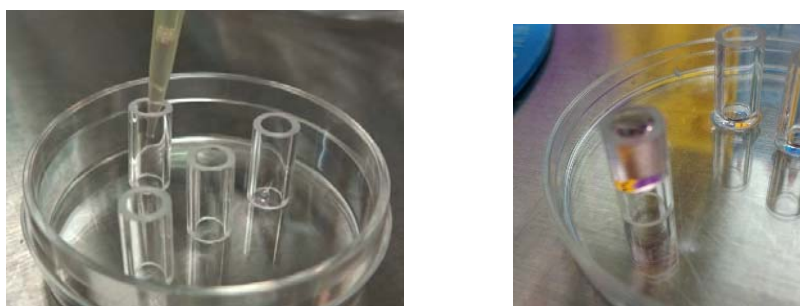

Figure 2-2. Moisten the inside of the cloning rings (left) and cell suspension sticking in the middle of cloning ring (right).
3. Moisten the inside of the cloning ring by pipetting small amount of medium (Figure 2-2, left).
- This process will help prevent the cell suspension from sticking in the middle of cloning ring (Figure 2-2, right).